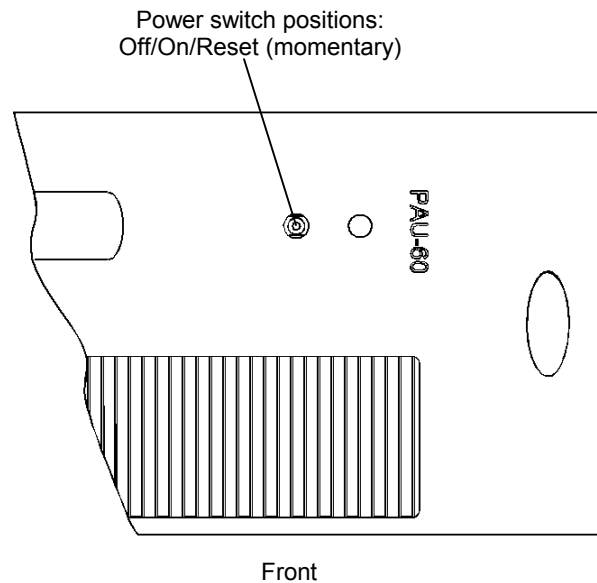

Figure 2-1 G3L-1929-120 Power Switch Functions
2. Place the amplifier power On/Off switch in the "Off" position (figure 2-1).